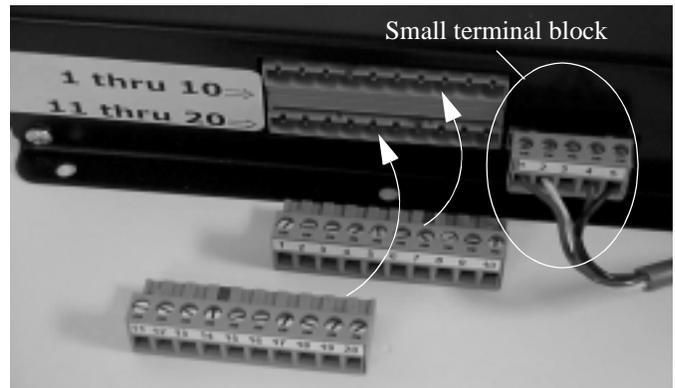

Figure 11. Terminal Block Installation
2. Connect the small terminal block (wired to cable in “Electrical Control Box Connections” on page 10 in the control box (see Figure 11).
3. Install two 10 pin terminal blocks (provided) in the control box (see Figure 11).